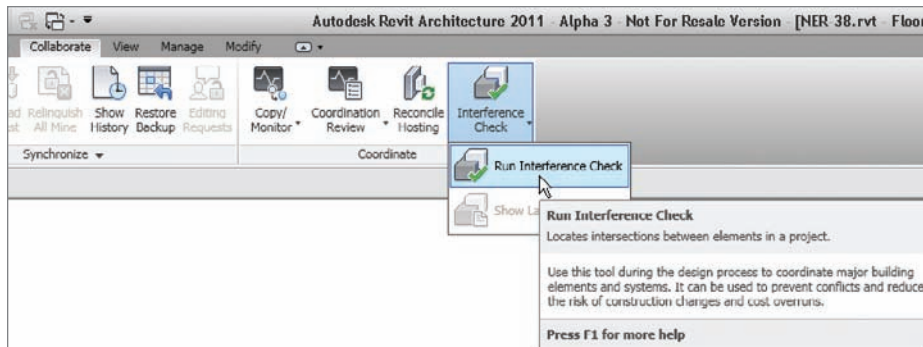

FIGURE 20.17 The Run Interference Check button on the Coordinate panel of the Collaborate tab
1. On the Coordinate panel of the Collaborate tab, click the Interference Check > Run Interference Check button, as shown in Figure 20.17.